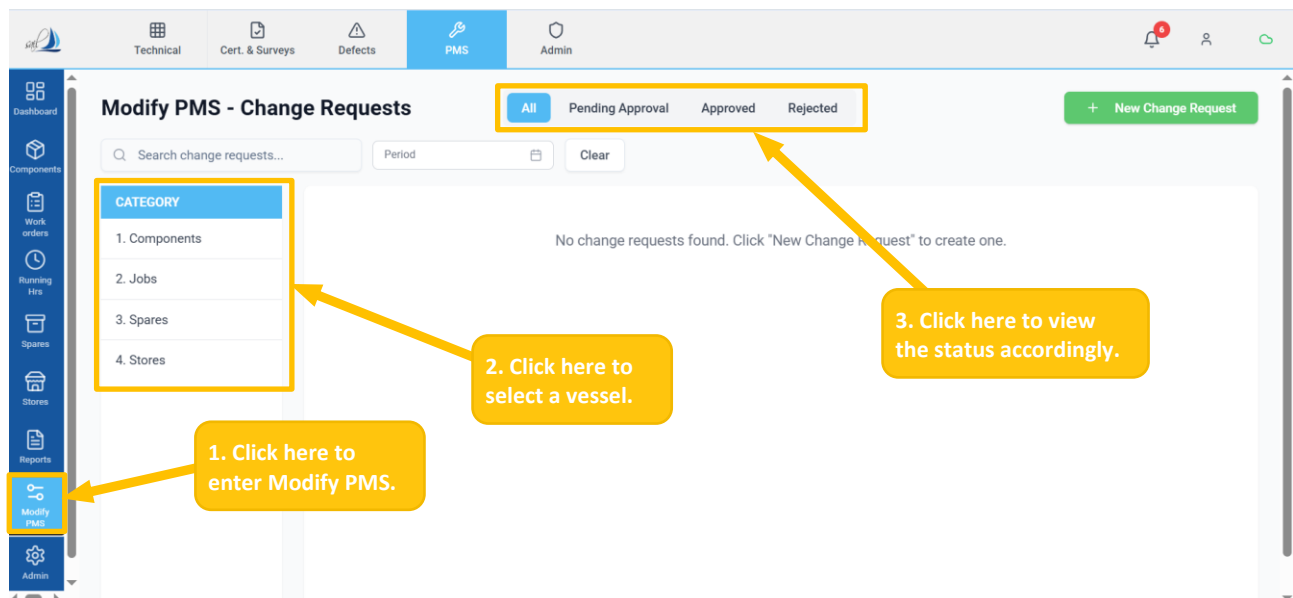

Figure 69
- The Modify PMS module provides a governed change-management process for modifying the PMS structure. Any change to a component record, maintenance job, spare part specification, or stores item must be submitted as a formal Change Request (CR) and approved before it takes effect. This ensures traceability and compliance with class and company requirements.
- Click the 'Modify PMS' sub-sub-module to view and manage change requests. (Ref Figure 69)
- From the Category panel, select the desired option (Components, Jobs, Spares, or Stores) to view and manage related change requests. (Ref Figure 69)
- Click the required status tab (All, Pending Approval, Approved, or Rejected) to view the status of PMS change requests. (Ref Figure 69)